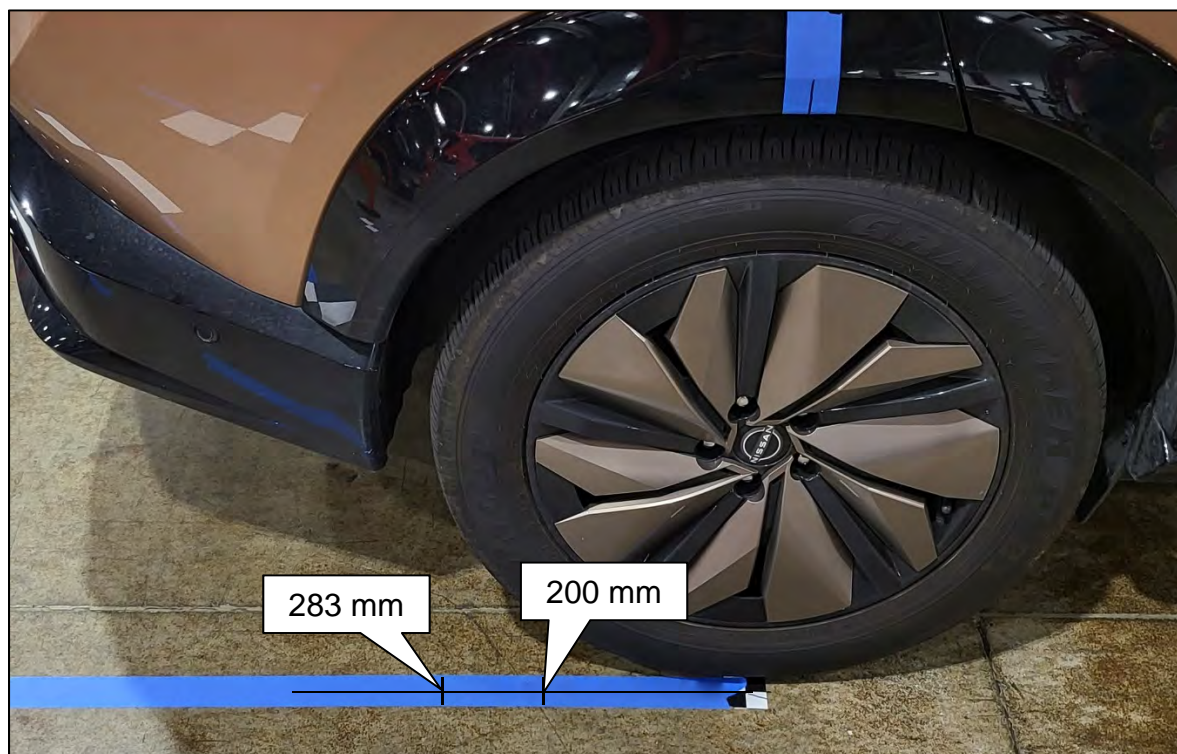

Figure 102
67. Measure 200 mm and 283 mm from the center point of the passenger (RH) side rear wheel, and then make a mark at each measurement, as shown in Figure 102.